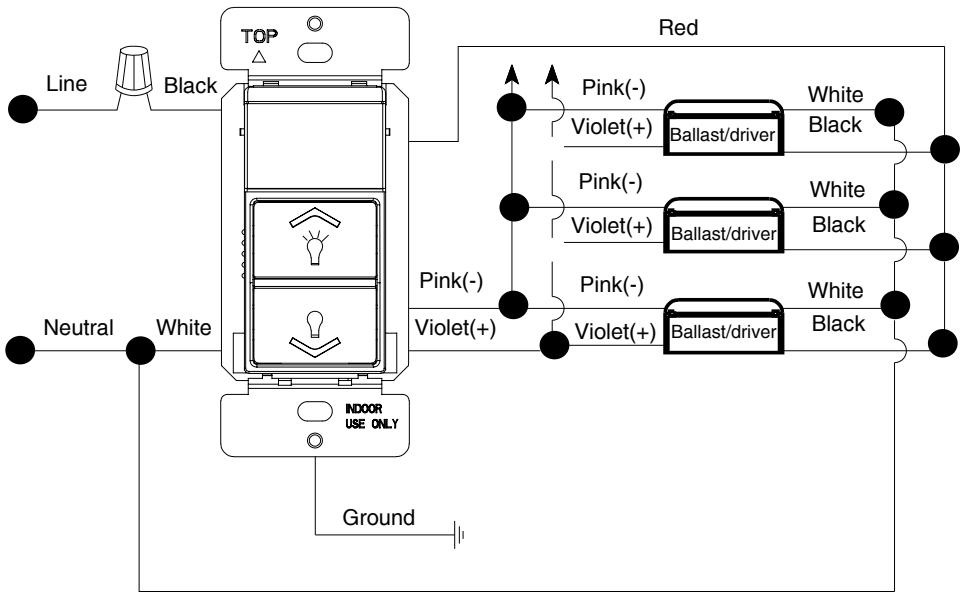

Figure 2
2. Connect the TSWSDA as shown in WIRING DIAGRAM (see Figure 2).